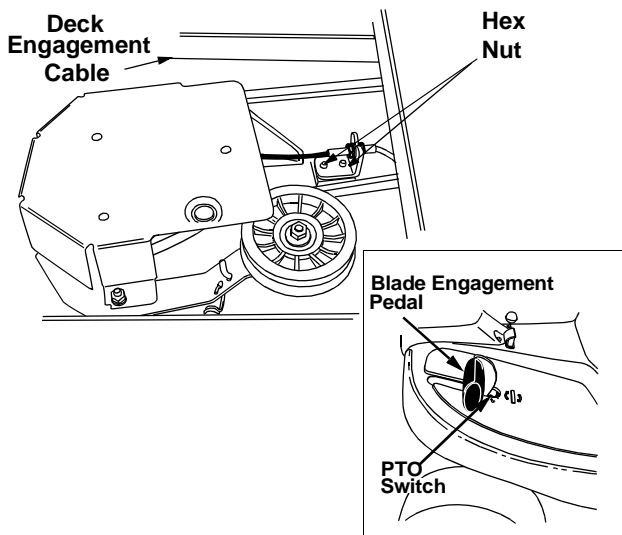

Figure 13
The blade engagement pedal should be adjusted so that if you depress it about 3/4" from the front of the slot, it should start engaging the deck belt. The PTO (power take off) switch is located in the blade brake slot on the left side of the upper frame. See Figure 13. The brake engagement pedal needs to make contact with the PTO switch for the engine to start.
Adjustment to the blade brake will have to be made at the cable end. See Figure 13.
- If the belt is slipping when you depress the blade engagement pedal about 3/4", loosen the two hex nuts on the cable. See Figure 13.
- If the belt is engaging sooner than when the blade engagement pedal is 3/4" from the PTO switch, tighten both hex nuts on the cable. See Figure 13.